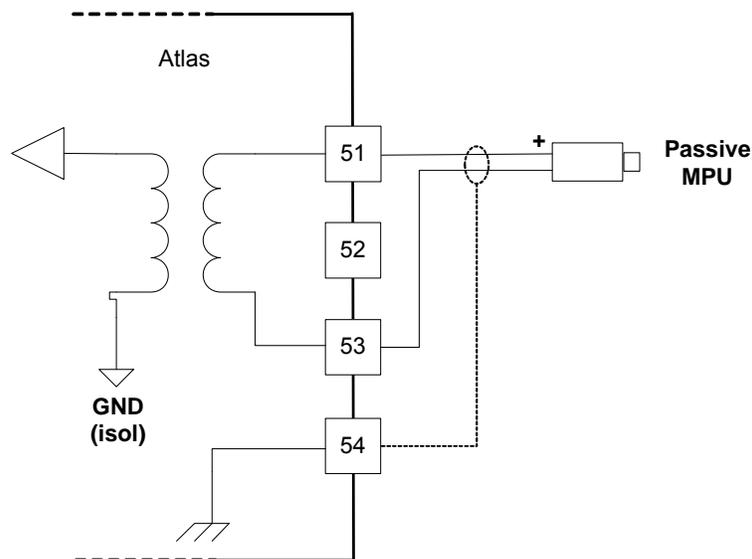

Figure 4-3. MPU Interface to the SmartCore Board
- Refer to Figures 4-3 and 4-4 for speed sensor wiring.